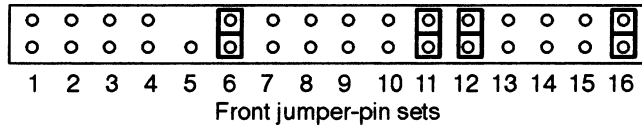

Figure 6 Required jumpers for Model 61005-W, 61006-W, or 61007-W drive (front jumper-pin set)
3. Make sure jumpers are installed *only* across front jumper-pin set 6, 11, 12, and 16, as shown in Figure 6.